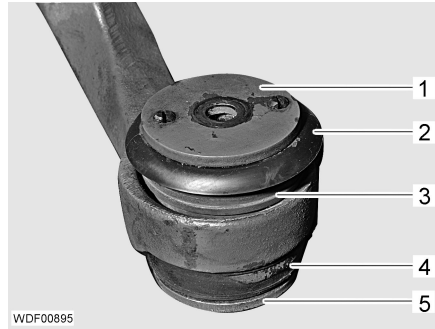

Fig. 64 Rubber buffer
- Remove the washer (Fig. 64,1).
- Remove cap (Fig. 64,2) and lower section (Fig. 64,5).
- Detach the rubber buffers (Fig. 64,3 and 4).
- Push in the lower section (Fig. 64,5) and cap (Fig. 64,2).
- Fit the washer (Fig. 64,1) onto the cap.